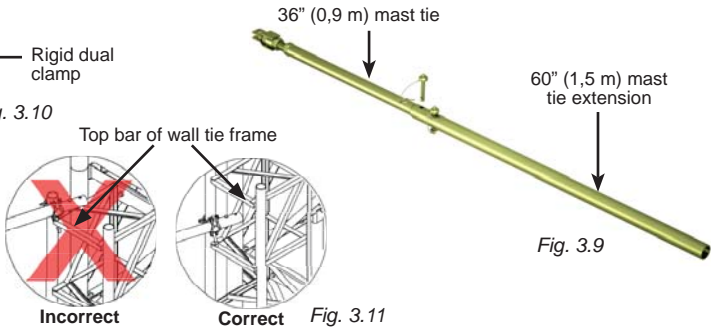

Fig. 3.9
- 5- Insert a 60" (1,5 m) mast tie extension into the tube of a 36" (0,9 m) mast tie. Secure in place with two pins (fig. 3.9).